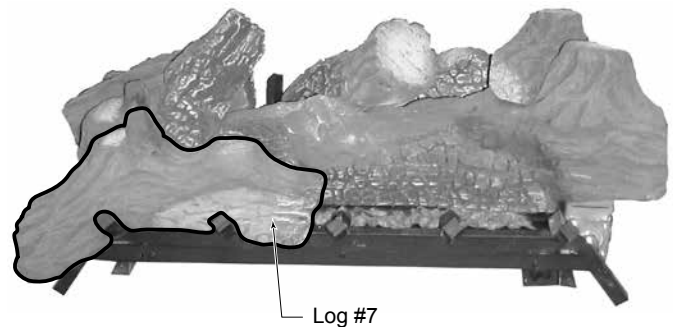

Figure 5.7 - Place Log #7
7. Place log #7 on left two (2) grate tines by aligning the 'V' notch in log with grate tines. Make sure groove on bottom of log is firmly seated on grate bar. *Figure 5.7*